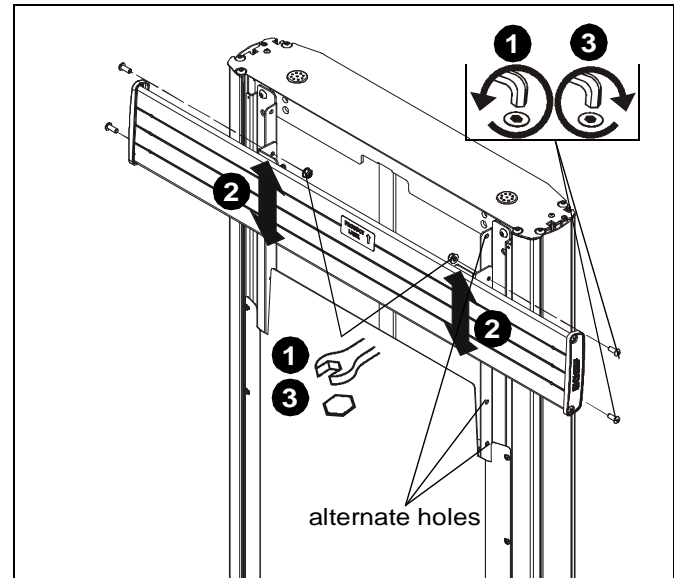

Figure 13
1. Remove four screws and nuts holding head assembly to vertical brackets on mount. (See Figure 13)
2. Adjust height of head assembly up or down lining up the holes on the brackets as desired. (See Figure 13)
3. Reinstall four screws and nuts removed in Step 1 to secure head assembly to vertical brackets on mount. (See Figure 13)